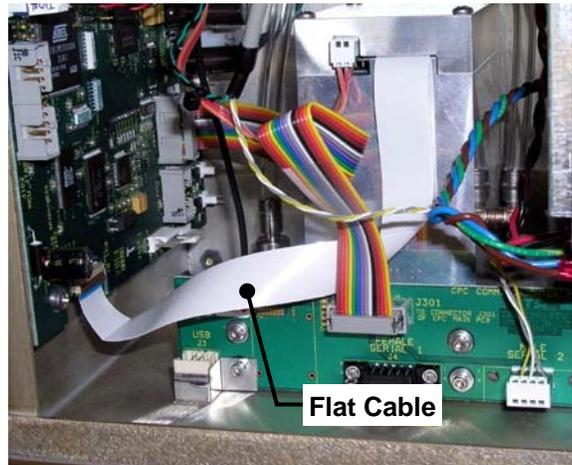

Figure 7-1
- The flat cable to the sensor is disconnected (see Figure 7-1 below).